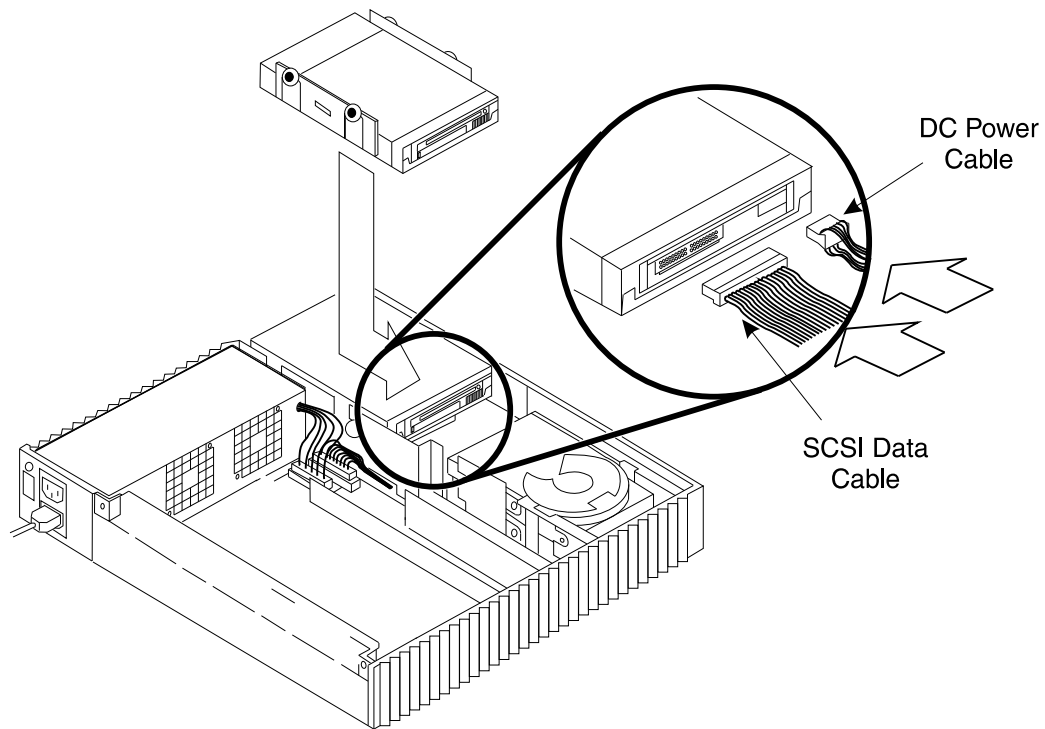
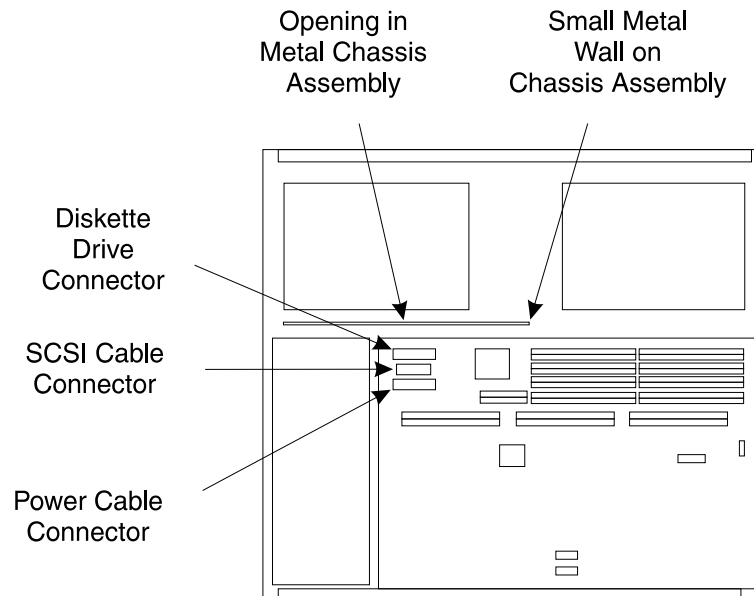

Figure D-34: Inserting the Internal CD-ROM Drive
Figure D-35: Internal CD-ROM Drive — SCSI Cable Connector Location
6. Insert the drive in the system, and push the drive towards the center of the system (see Figure D-34).
7. Connect the power cable to the back of the CD-ROM drive (see Figure D-34).
8. Attach one end of the SCSI data cable to the connector on the back of the CD-ROM drive (see Figure D-34), and the other end of the SCSI data cable to the connector on the system board (see Figure D-35).